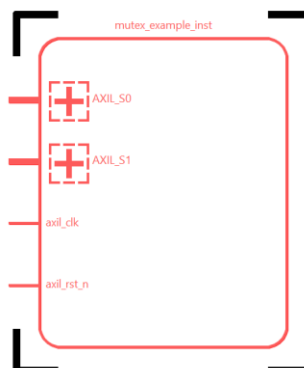

Figure 3.5. Generated Instance
- The Mutex IP instance is successfully generated, as shown in Figure 3.5.